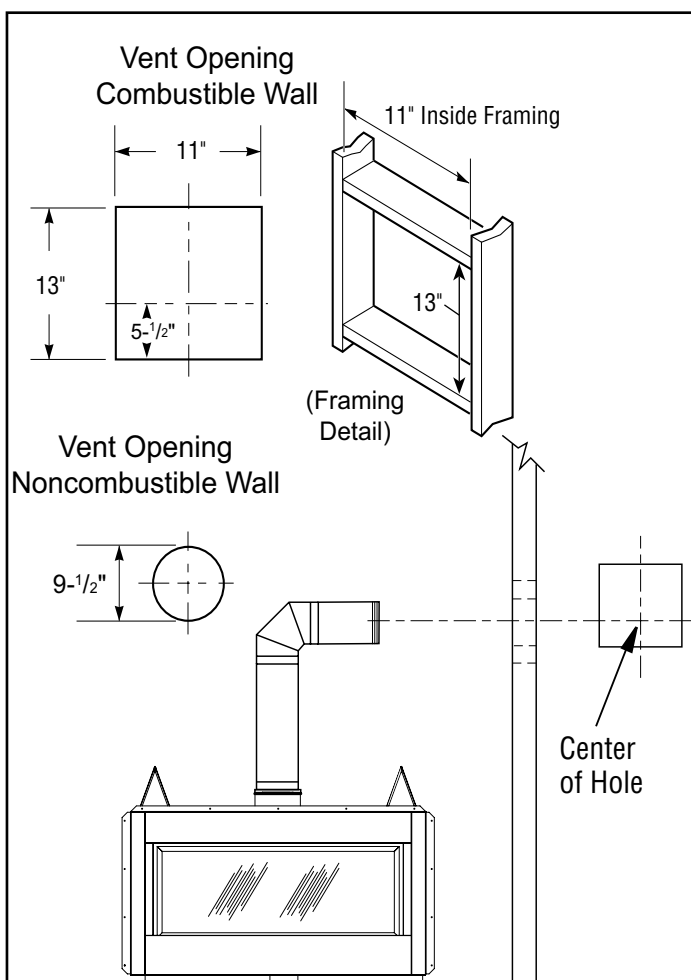

Figure 13 - Vent Opening Requirements
4. Carefully determine location where vent pipe assembly will penetrate outside wall. Mark center line of pipe on wall. Mark wall for a 13" x 11" square hole, where bottom of square starts 5-1/2" below center line of pipe (see **Figure 13**). This will provide the 3" minimum spacing needed on top of horizontal pipe. Cut and frame 13" x 11" rectangular hole in exterior wall where vent will be terminated. If wall being penetrated is constructed of noncombustible material, such as masonry block or concrete, a 9-1/2" hole with zero clearance is acceptable (see **Figure 13**).